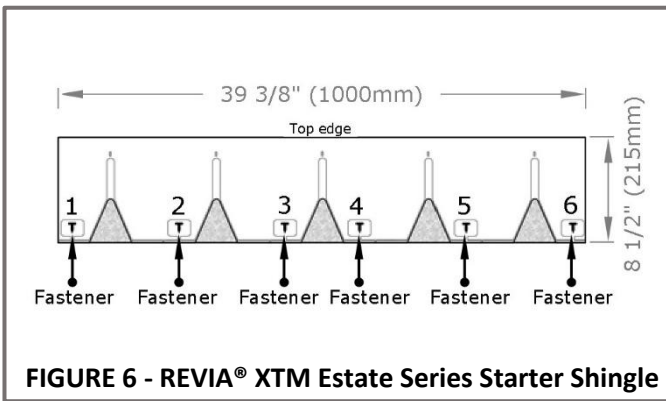

**FIGURE 5 - Sealant Spots**
- Apply **five 1" (25mm) diameter** sized spots behind every tab, (total of 25 spots per full shingle). See **Figure 5**.